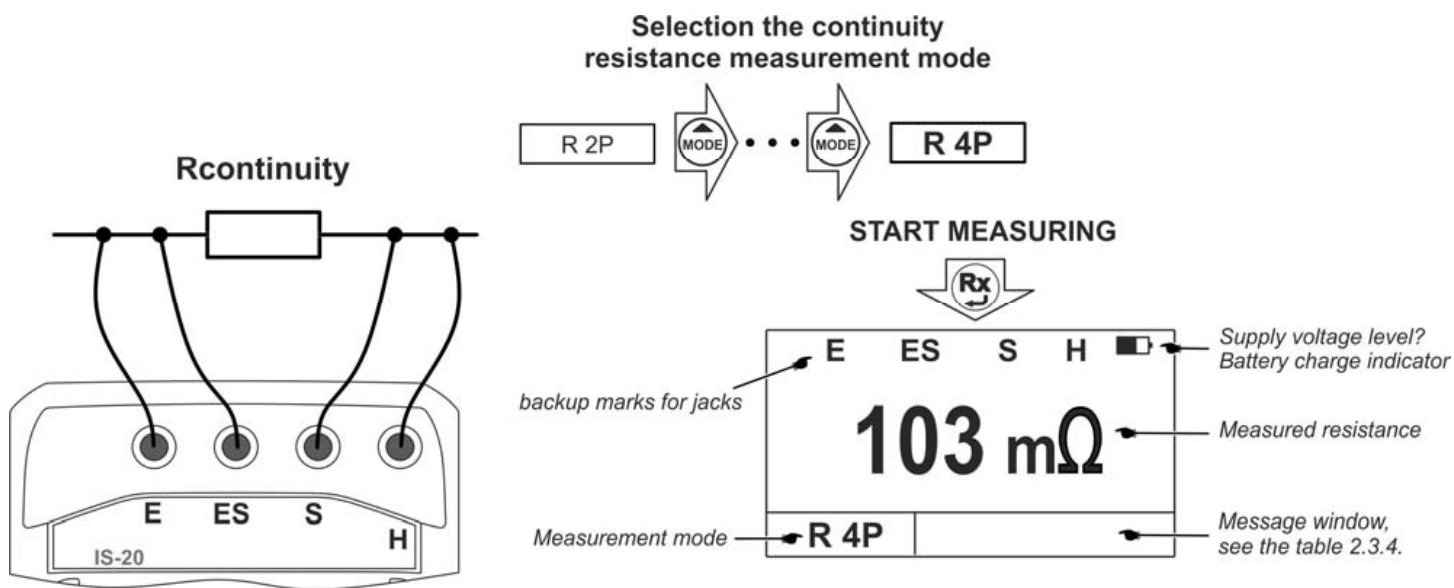

Figure 2.7 – Connecting scheme and display view during four-pole resistance measurement
Using button , select the four-pole measurement method (**R 4P**). Connect cables from jacks E and ES from one end of the resistor (R) being measured and cables from jacks S and H from the other end (Figure. 2.7). Ensure that the interference voltage level does not exceed the permissible one.